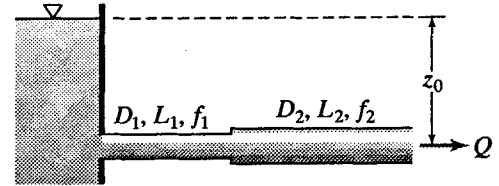

Figure P12.24
12.24 The pipeline for draining a large reservoir consists of 200 ft of 6-in-diameter pipe ( $f = 0.030$ ) followed by 500 ft of 10-in-diameter pipe ( $f = 0.020$ ). The elevation of the outlet is 100 ft below the reservoir water surface (Fig. P12.24). A valve at the outlet, initially closed, is quickly opened. Derive an equation similar to Eq. (12.8) that is applicable to this situation, and plot flow rate versus time. Neglect minor losses.